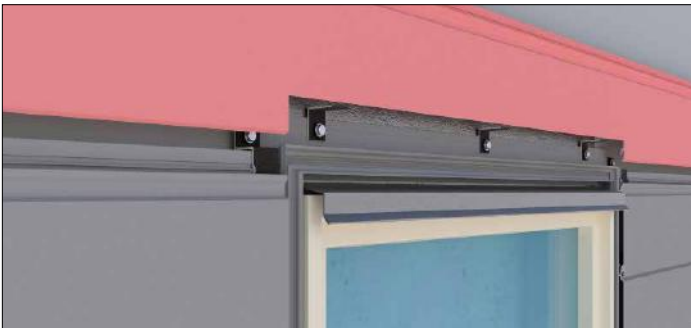
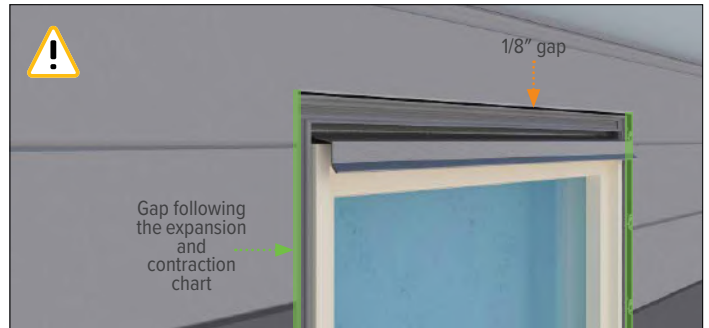

Figure 4.1
Figure 4.2
4. Install planks on either side of the jamb of the window, at head of window (Figure 4.1). Notch plank leaving 1/8" gap between the plank and the horizontal P11 back plate (Figure 4.2).
Make sure gap between the plank and vertical P11 back plate is following the expansion and contraction chart found on pg. 11 of the Installation Guide (Figure 4.2).